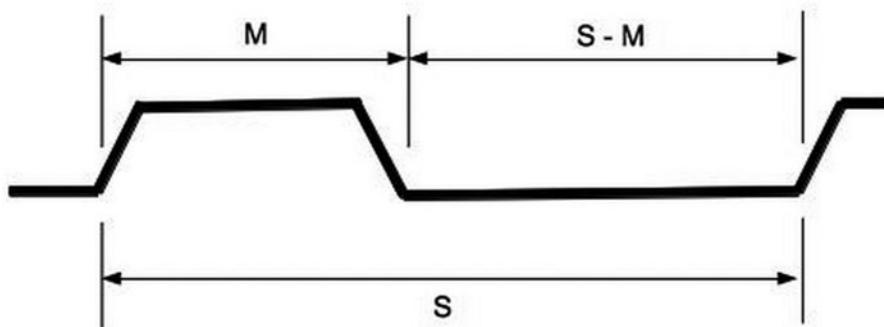

Figure 7-1. M/S signal
In M/S mode, the signal consists of cycles of mark and space. The mark (1) signal is sent with a length M , and the space (0) signal is sent with a length $S - M$ (S is the length of the entire cycle). Figure 7-1 illustrates the relationship between M and S (for a noninverted signal).